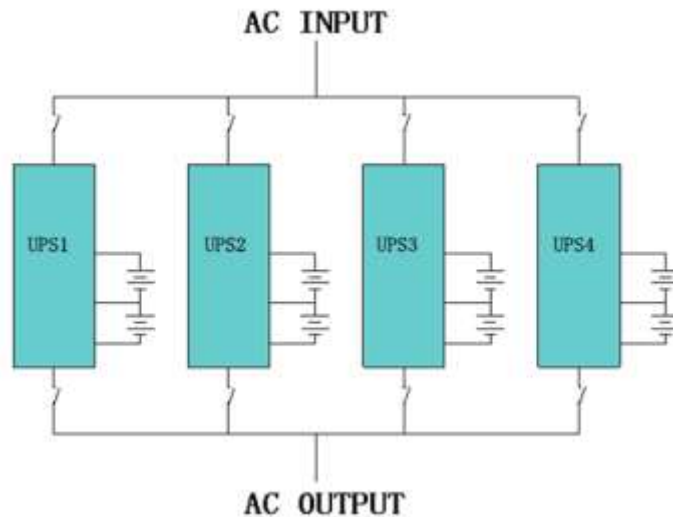

Fig. 4-1 Parallel connection
- 2) Connect all the outputs of the parallel UPS using individual breakers to one patch board before connect to the loads. See the Fig. 4-1 as follows.
- ① Working mode: set as Parallel operation;
- ② Parallel ID: set different UPS ID one by one;
- ③ Parallel amount: set the amount of UPS in parallel.